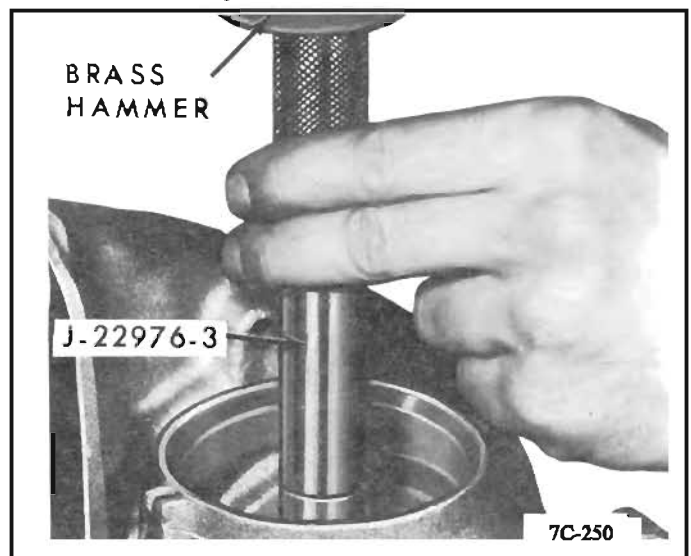

Figure 121 Bushing Installer
c. Use J-22976-3 alignment arbor and bushing installer to drive the bushing into the case. *See Figure 121.* A brass hammer should be used to strike the hardened steel bushing installer tool.